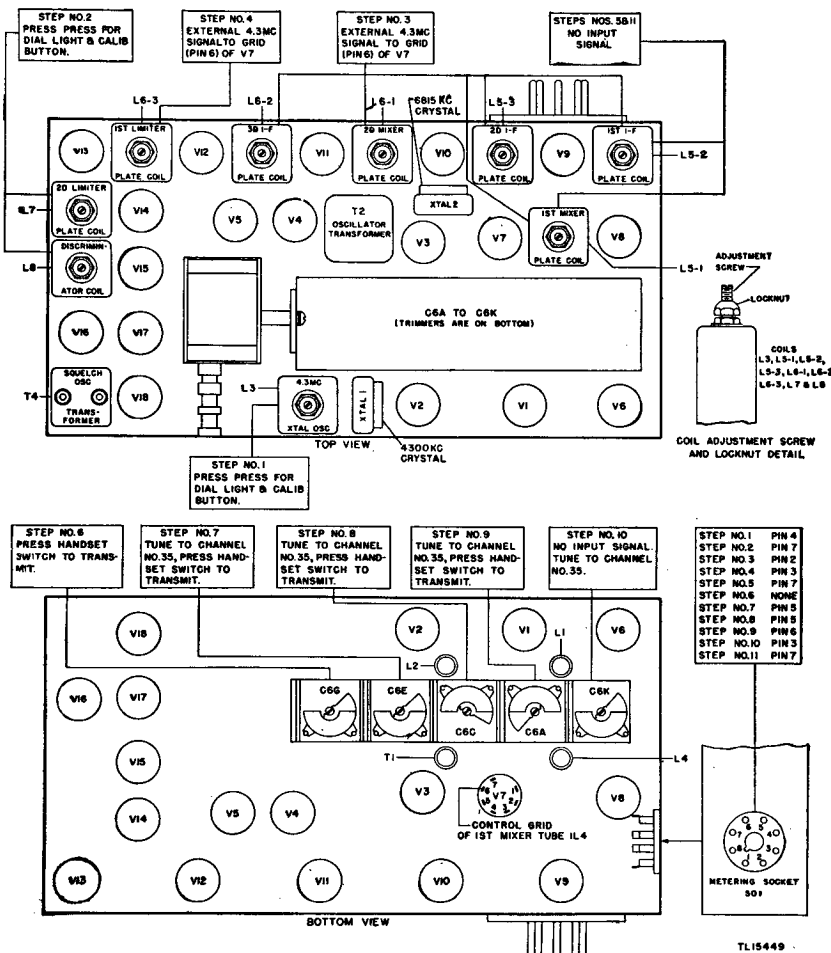

Figure 87. Radio Receiver and Transmitter BC-1000-A, location of adjustments used in alignment.
a. **DETAILS IN TEXT.** Thorough study of the preceding text which describes in detail how to align Radio Receiver and Transmitter BC-1000-A in three ways is necessary before the alignment can be made properly. The alignment chart (table XVII) is intended as a handy outline guide to the step-by-step procedures and may be used with any of the three methods of alignment. Location of adjustments used in alignment is shown in figure 87